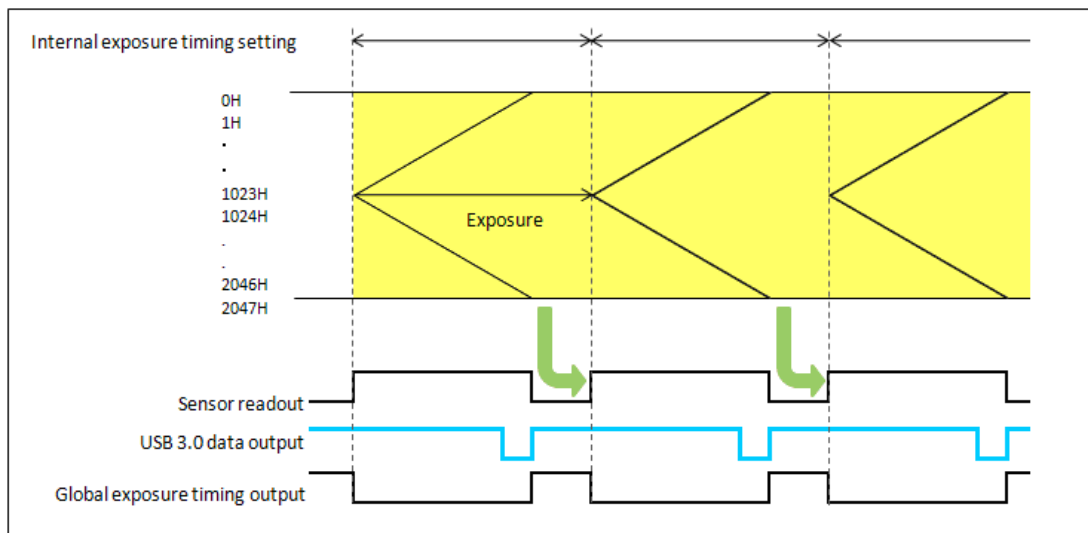
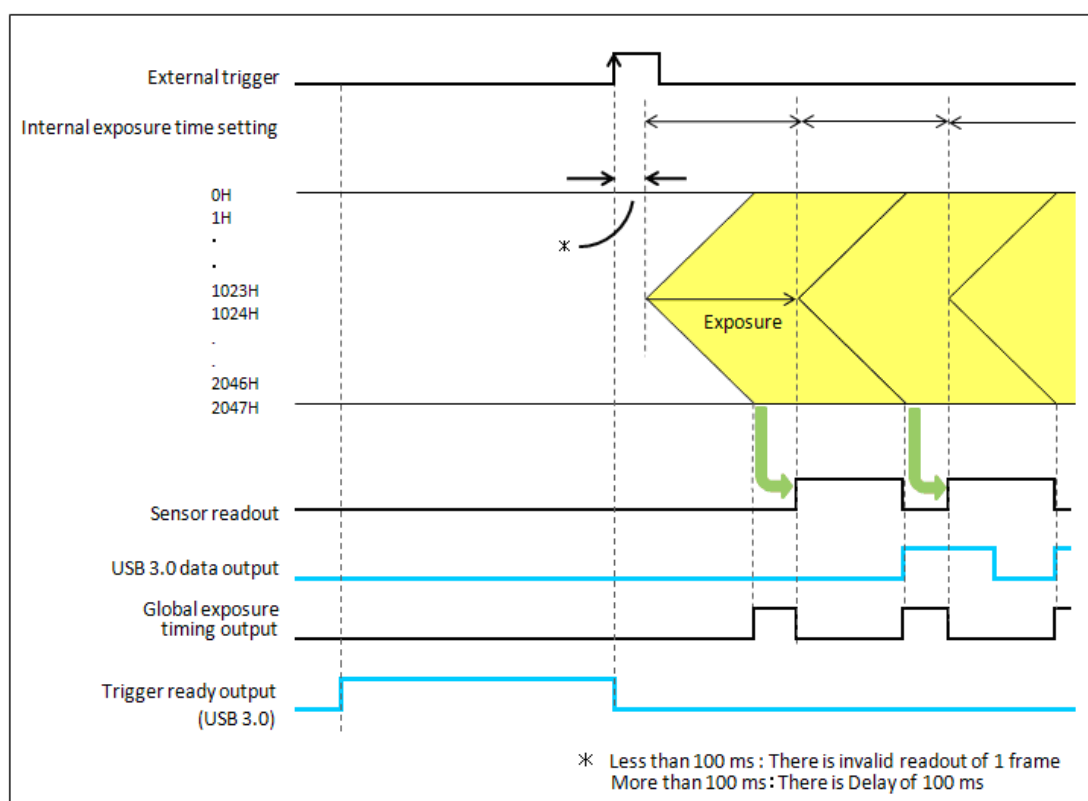

Figure 9-3
Figure 9-9 (Ex. rising edge)
- Please refer to Figure 9-3 to Figure 9-9 about details of each trigger output functions.